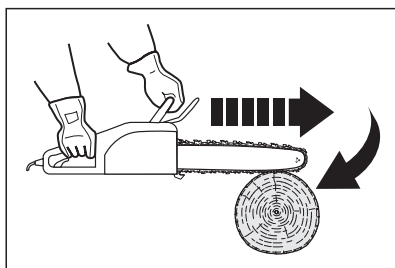

Fig. 8d
1. Pinching the saw chain (3) along the bottom of the guide bar (4) may pull the product forward away from the operator (Fig. 8d).